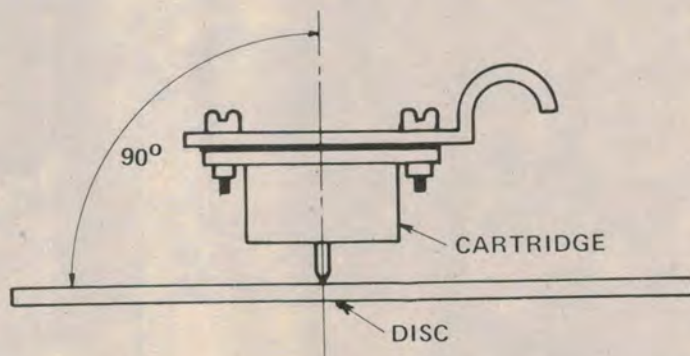

Fig. 1. The stylus must be perfectly vertical in the groove.
**STEP 1:** Refer Fig. 1. The stylus must be perfectly vertical in the groove as viewed from the front. Any slightly "off vertical" alignment must be corrected. A unipivot arm can pose problems in ensuring this adjustment is stable and accurate. If it is not, no other changes will optimise the system.